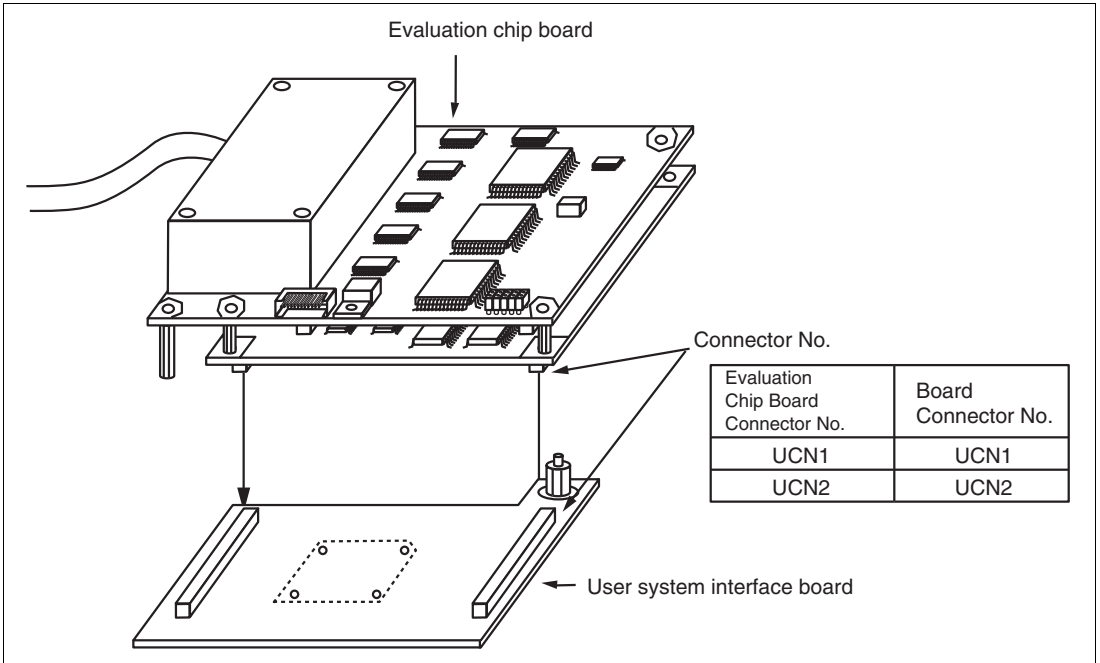

Figure 5 Connecting the User System Interface Board to the Evaluation Chip Board
2. Align the connectors on the user system interface board with those on the evaluation chip board by matching the numbers on the connectors (figure 5).